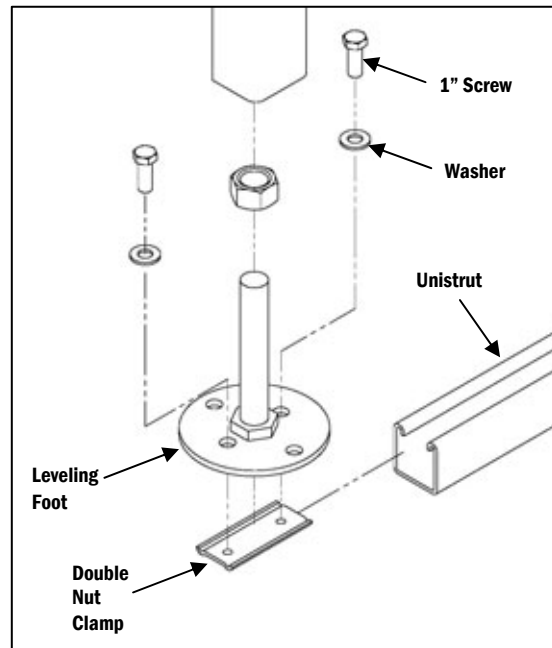

Figure 1
❶ Install the Stabilizers to the Leveling Feet
- a. Rotate the feet so the holes 2" apart are in line (**Figure 1**).